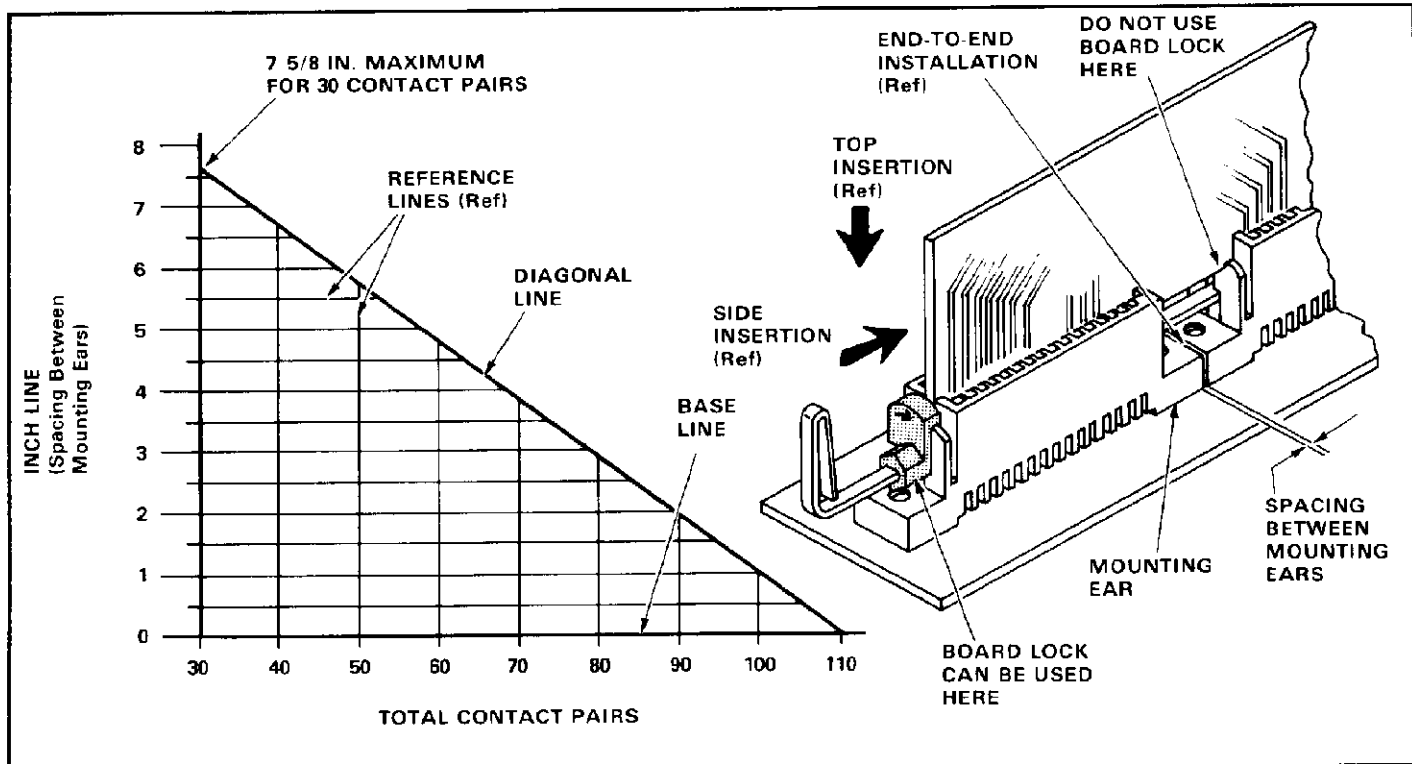

Fig. 3
*A board lock may be used only on the first connector. See Figure 3.*
Add the contact pairs of the two connectors you are going to mount, then refer to the graph in Figure 3 for the allowable distance between connectors.
*An example would be 28- and 22-position connectors. The 50 total positions, which from the graph in Figure 3, allows approximately 5 3/8 in. between connectors. (It's always better to be under, rather than over, the approximate dimension.)*